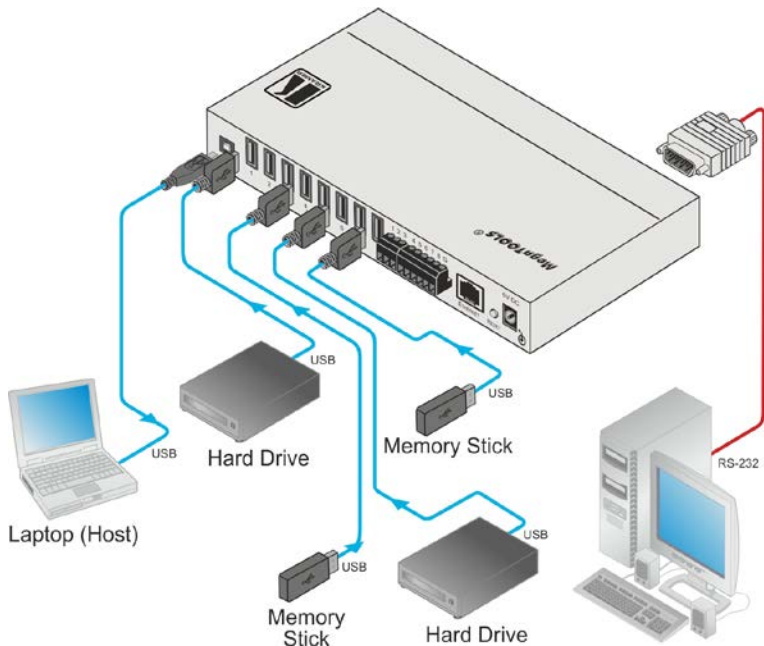

Figure 2: Connecting to the VS-801USB
To connect the **VS-801USB** as illustrated in the example in Figure 2:
4. Connect the 5V DC power adapter to the power socket and connect the adapter to the mains electricity (not shown in Figure 2).